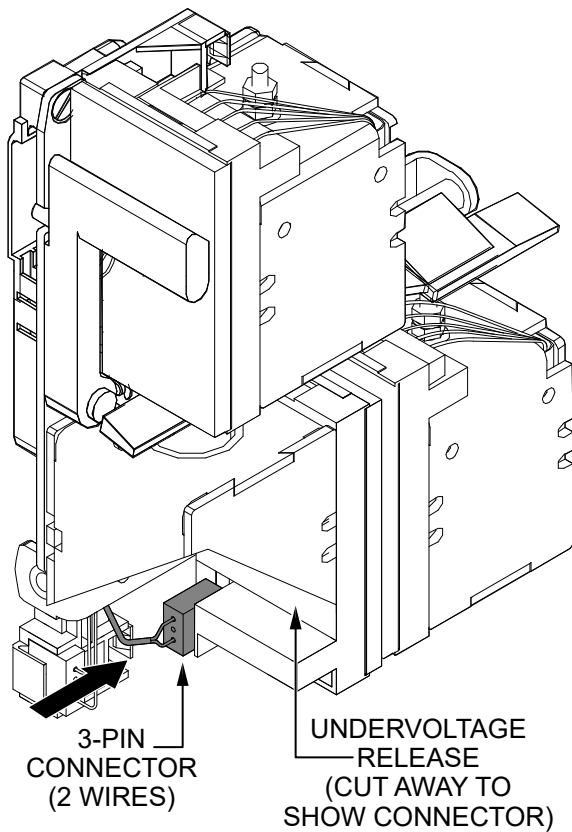

Figure 18. Connect UVR Wiring
12. Plug the **3-pin connector with two wires** (Figure 18) into the receptacle at the bottom of the **undervoltage release**.
- A. If the circuit breaker closes normally and no alarm is present when the Main Circuit Breaker ON button is pressed, shut down the generator as described in the operation manual and inspect the **UVR wiring connection** (Figure 18). Make sure the correct connector (3 pins, 2 wires) has been used, and make sure the connector is fully plugged into the UVR and the wires are not loose or disconnected.